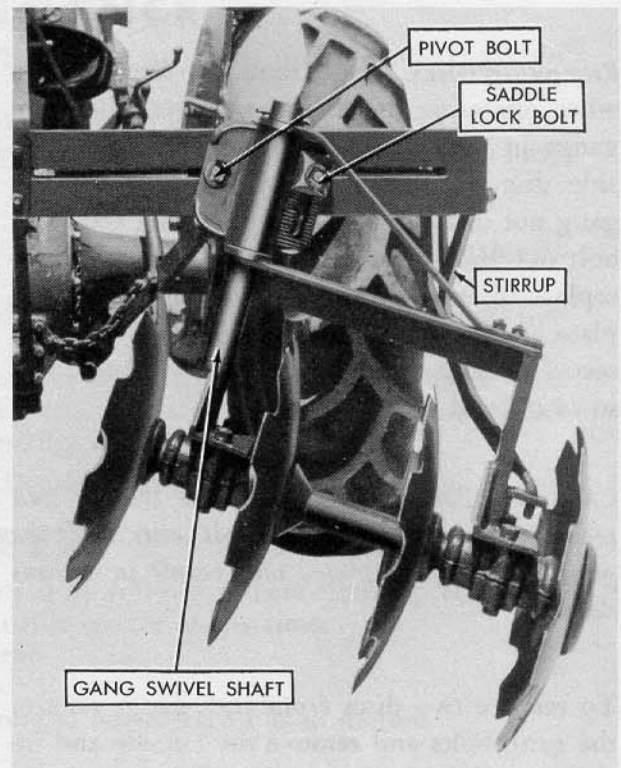

Figure 17
the saddle lock bolt (see Figure 17) of each gang, raise or lower the end of the gang to desired vertical angle and then tighten the nuts securely. Set both gangs at the same angle. Be sure the gangs are centered on the main frame.
2. Swing the gang assemblies outward pivoting them around the gang swivel shaft to the position shown in Figure 17.